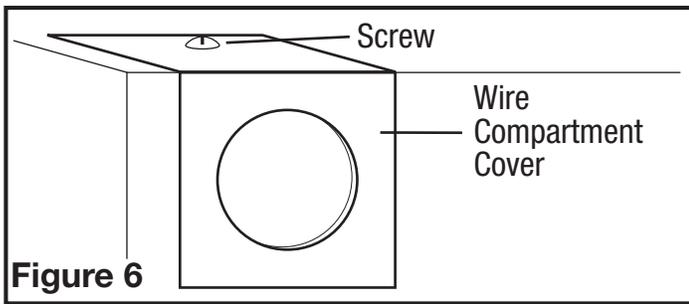

Figure 6
- Remove the wire compartment cover screw and place cover in a secure place (Figure 6).